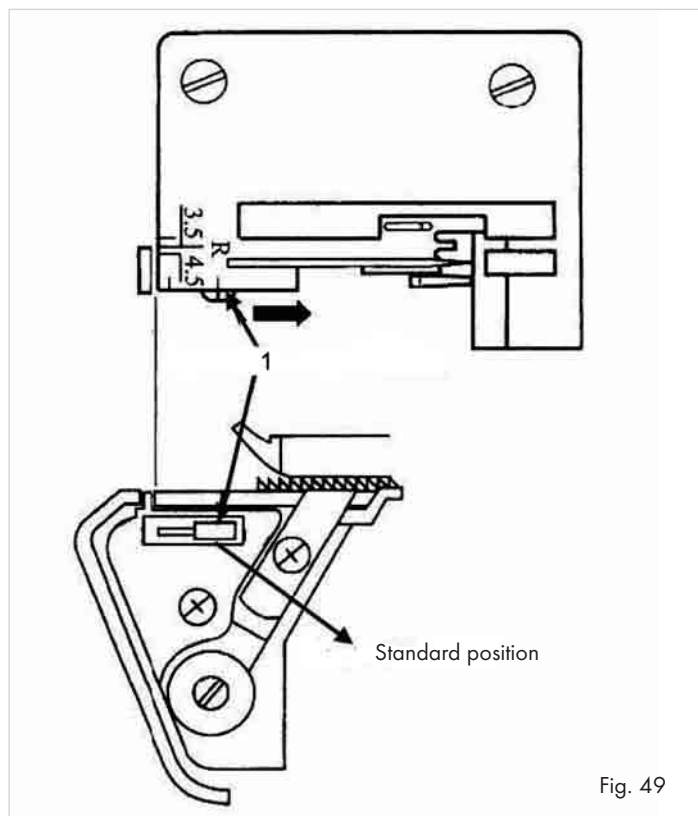

Fig. 49
- Open the front flap ⑩.
- Slide the seam width switch ⑬ to "S", so that the seam width finger is pushed forward (1) (Fig. 49).